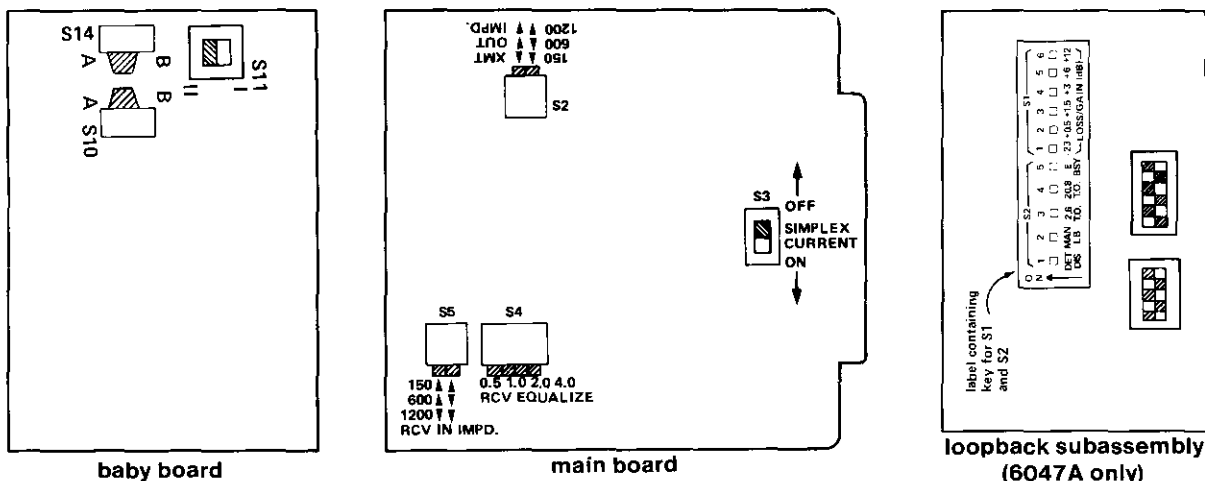

figure 9. 6047 and 6047A option switch locations
3.06 All options on the 6047 and 6047A modules are selected via slide or DIP switches whose locations on the modules' printed circuit boards are shown in figure 9. Table 5 summarizes these options and their switch settings, which are explained in detail below. Each module should be completely optioned and its optioning verified before alignment is attempted.